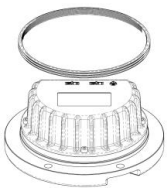

Figure 5-16
- Replace the lighting fixture gasket outside the inner cover: Take down the gasket outside the inner cover and carefully clean the gasket sleeve. Assemble the new gasket to the correct working position on the inner cover. Please note that the gasket shall not be bent (Figure 5-16).